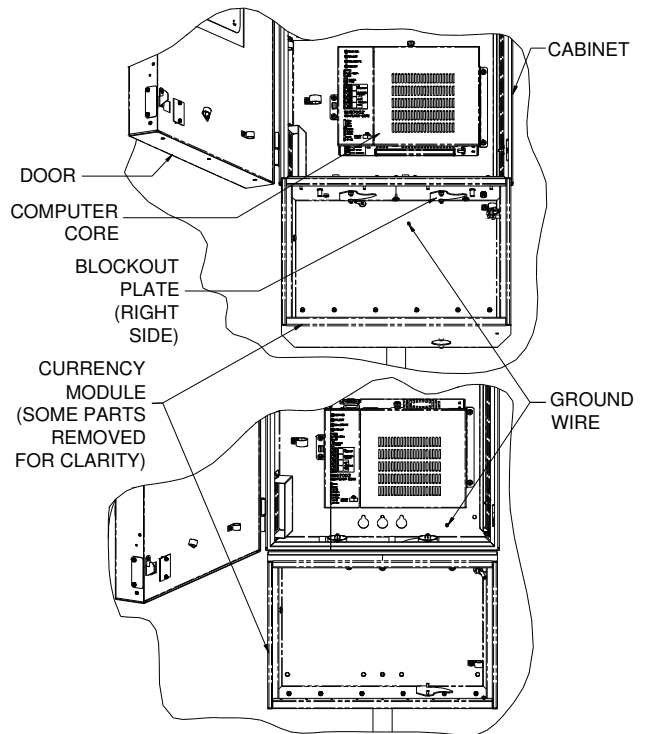

Figure 4-B – Hanging the jukebox
10. Open the right side block-out plates between the jukebox and the Currency Module (see *Figure 4-B*). Feed the 12-pin connector and cable from the Currency Module into the jukebox and plug the cable into the jukebox main harness directly below the Computer Core.
11. Locate the free ends of the credit card reader and ground wire cables in the Currency Module. Route these cables into the jukebox through the access hole. Connect the ground wire as shown in *Figure 4-B*. Connect the USB cable from the credit card reader to the Computer Core.